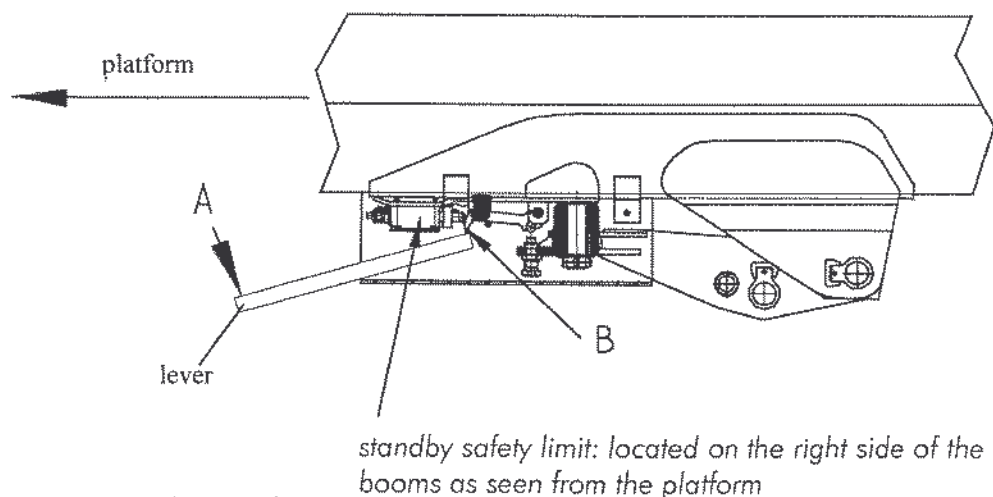

Figure 8.-5 Load control
2. Place a lever, e.g. a wooden stick, between the guide B and the cover, figure 8.-5